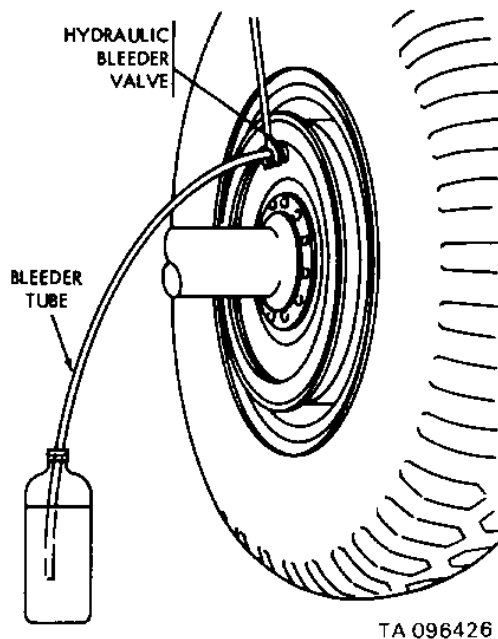

Figure 4-27. Bleeding hydraulic brake system.
b. *Manual Bleeding (fig. 4-27).*
(1) Connect towing vehicle SERVICE and EMERGENCY brake line couplings to their associated semitrailer couplings and open shutoff valves on towing vehicle air lines.
(2) Clean bleeder valve and attach tube to bleeder valve (fig. 4-27). Submerge opposite tube end in bottle or jar partially filled with hydraulic brake fluid.